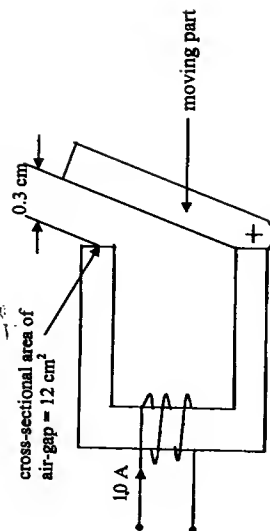

Fig. 1. Relay mechanism.
- 20 1. (a) Calculate the force produced on the moving part of the shown unipivot relay mechanism (Fig. 1) where the motion may be assumed to be linear. The coil has 1000 turns and the DC current flowing in it is 1.0 A. Neglect fringing and leakage flux, and assume that all the energy is stored in the air-gap.